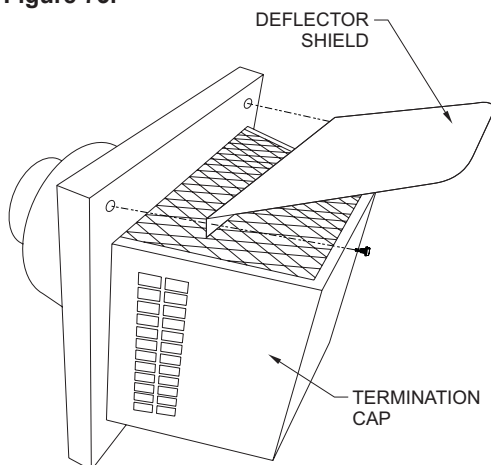

Figure 73
10. Secure the termination cap to the house exterior using four 1/8 x 3 inch long screws. Be sure to install the Deflector Shield with the two screws at the top of the termination base. **See Figure 73.**
12. Feed the outer flex vent over the inner flex flue vent and secure to the 7 inch dia. fireplace collar. Tighten the band clamp, then secure the clamp to the fireplace with (4) evenly spaced #6 x 1/2 inch self tapping screws provided.